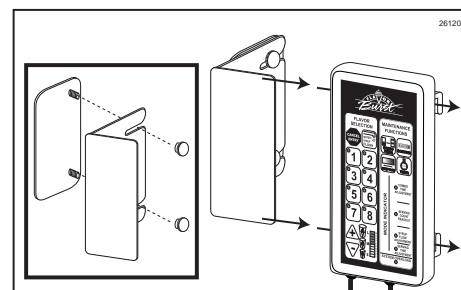

Figure 115
1. Slide the Keypad onto the main Bracket plate and assemble the two Bracket parts in the style that will best suit your freezer and daily operations. One example is given in the figure below. (See Figure 115.)